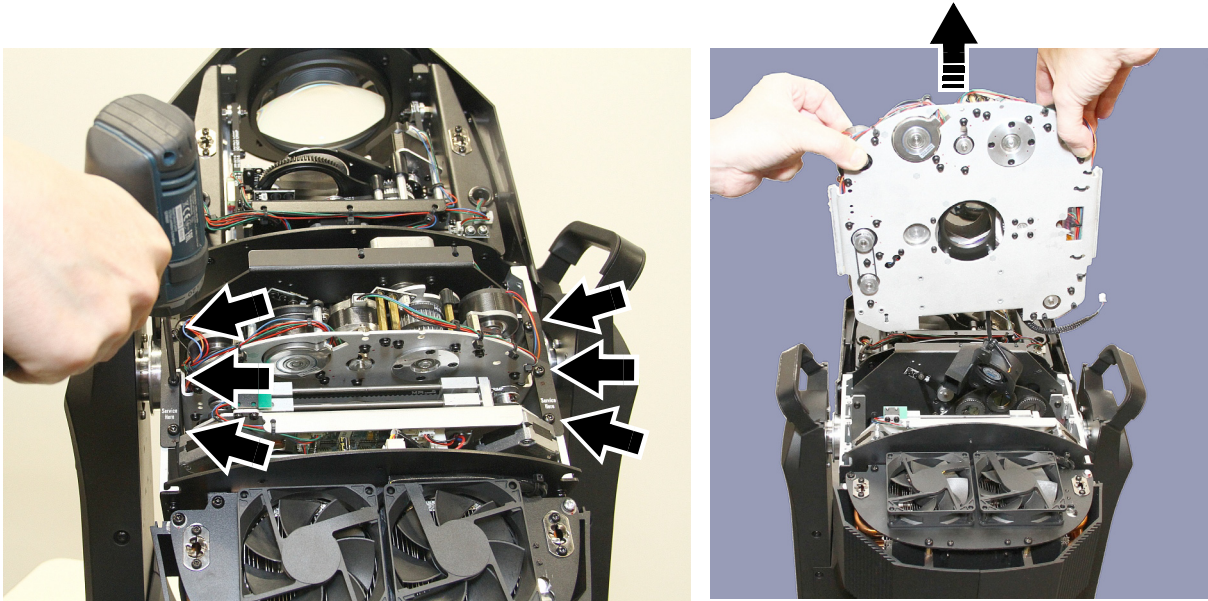

Figure 24: Removing the main effects module
7. See Figure 24. Remove the six Torx screws (arrowed) that hold the effects module retaining plates on the head chassis and remove both plates. Note that the correct plates are marked **Service here**. Do not confuse them with the similar unmarked plates on the other side of the head. Keep the plates and screws for re-use.